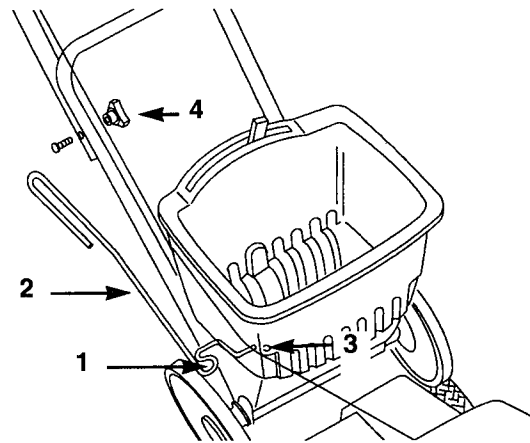

Figure 45
3. Remove the handle knob and bolt (Fig. 45) from the right side of the mower.
- A. Insert the mounting rod into the hole on the right side of the hopper (Fig. 45).
- B. Put the engine rope into the curve in the mounting rod (Fig. 45).
2. Remove the mounting rod and bracket from the handle and the hopper (Fig. 45). Reinstall the handle knob and bolt.